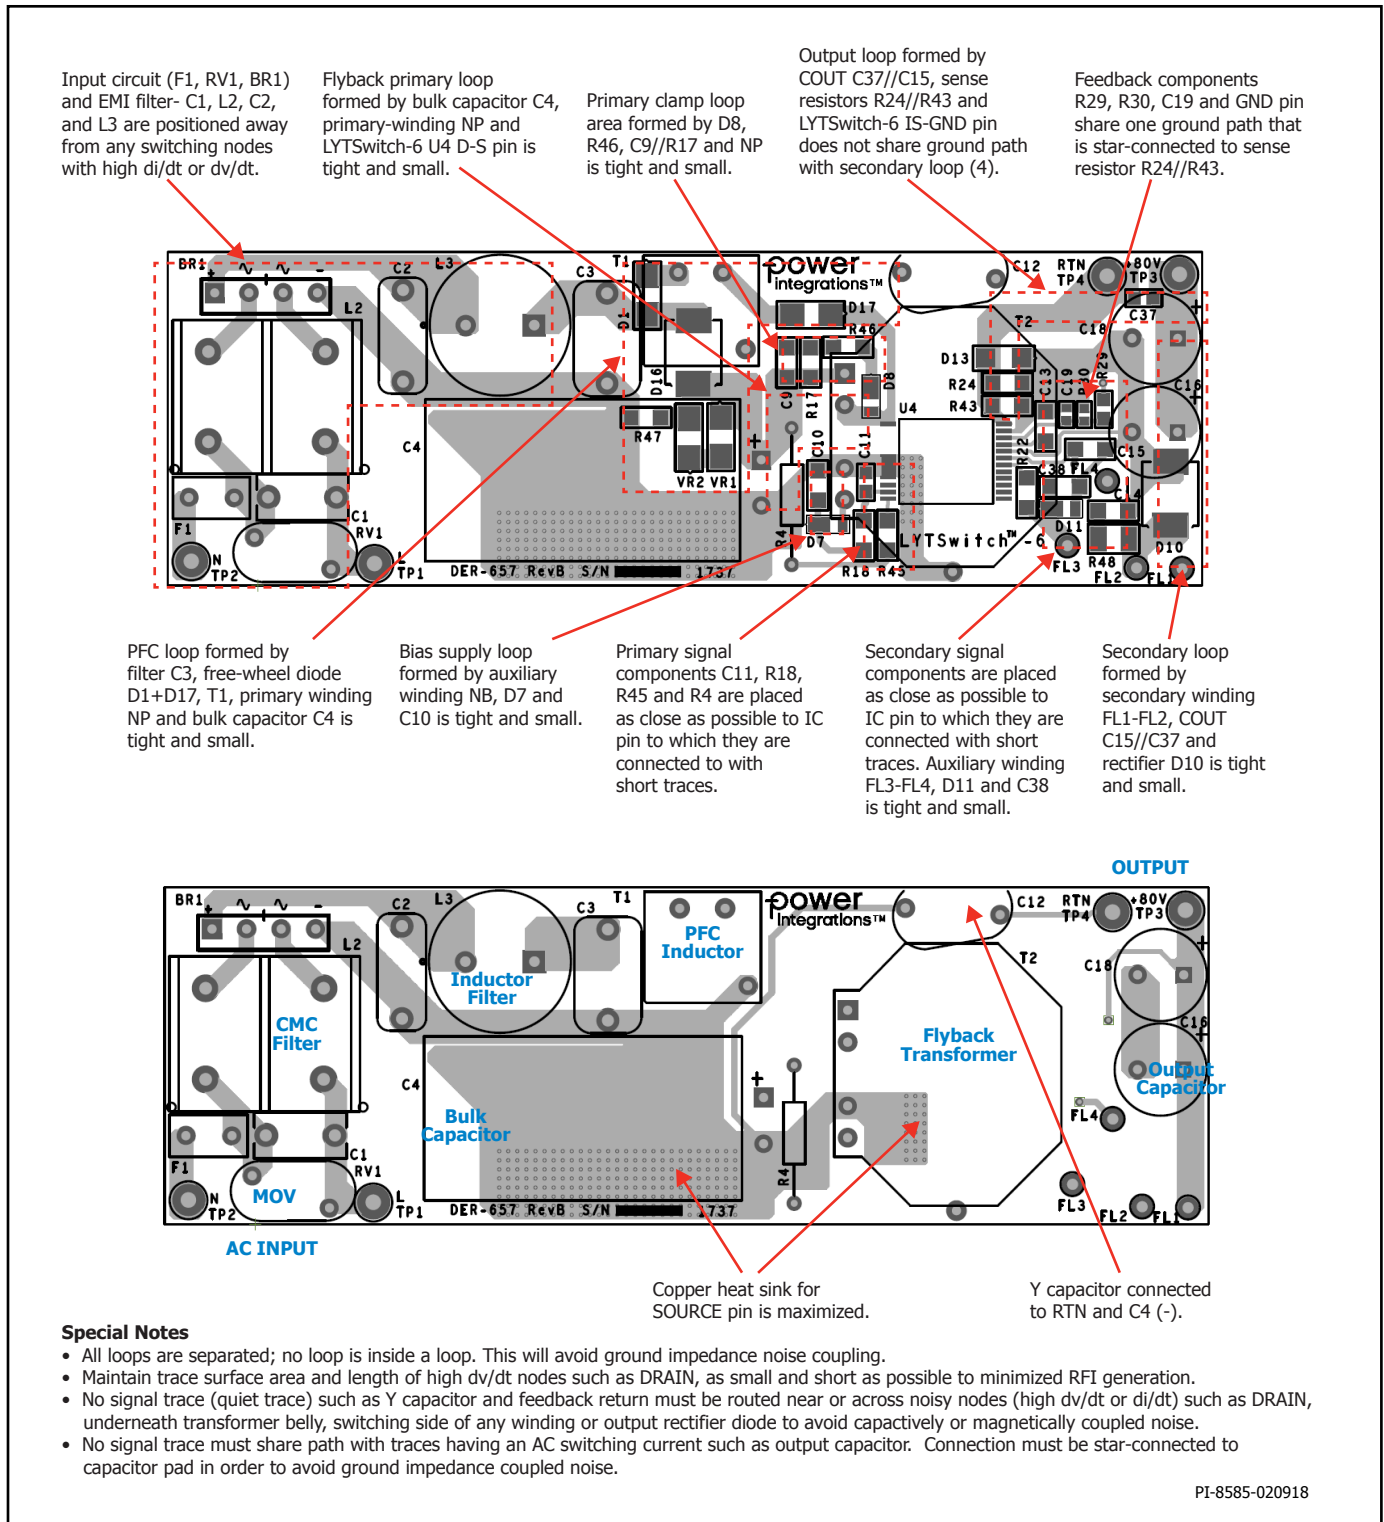

Figure 18. TOP and BOTTOM Sides – Ideal Layout Example Showing Tight Loop Areas for Circuit with High dv/dt and di/dt, Component Placement.
For output constant current (CC) operation, external current sense resistor R_{IS} should be connected between the ISENSE pin and the SECONDARY GROUND pin of the IC as shown in Figure 18. If constant current (CC) regulation is not required, this pin should be connected to the SECONDARY GROUND pin of the IC.
Use a single-point ground connection from the input filter capacitor to the area of copper connected to the SOURCE pin. See Figure 18.
Loops for circuits with high dv/dt or di/dt should be kept as small as possible. The area of the primary loop – input filter capacitor to transformer primary winding to IC should be kept small. Ideally, no loop should be inside another loop (see Figure 18). This will minimize cross-talk between circuits.
1. Appropriate component placement and small loop areas for the primary and secondary power circuits minimizes radiated and conducted EMI. Care should be taken to achieve a compact loop area. (See Figure 18)
7. A π filter comprising differential inductors and capacitors can be used in the input rectifier circuit to reduce low frequency differential EMI. A ferrite bead (Figure 18) can be added to further improve EMI.